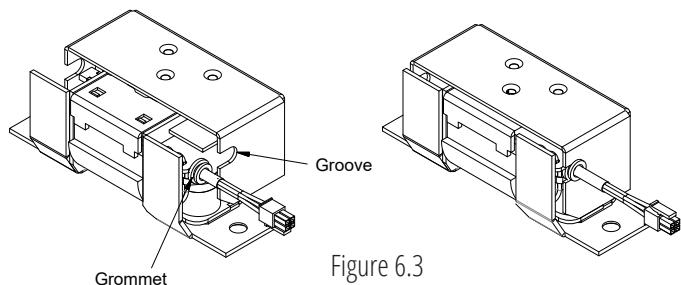

Figure 6.3
**Important Note:** After making any changes mentioned above, make sure that the rubber Grommet sits accurately into the groove of the back cover plate as shown in figure 6.3 while reassembling.